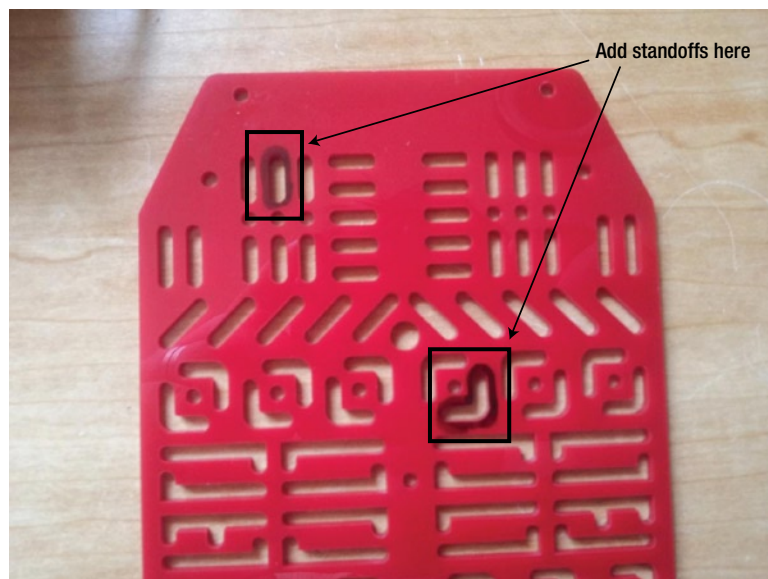

Figure 31-3. Mark where the Arduino will be attached to the top plate of the chassis
2. Decide where the Arduino will be placed on the top plate of the chassis. Figure 31-3 illustrates this process. You don't have to actually write on your top plate, but we've done so to indicate where we'll be placing our Arduino's two standoffs.